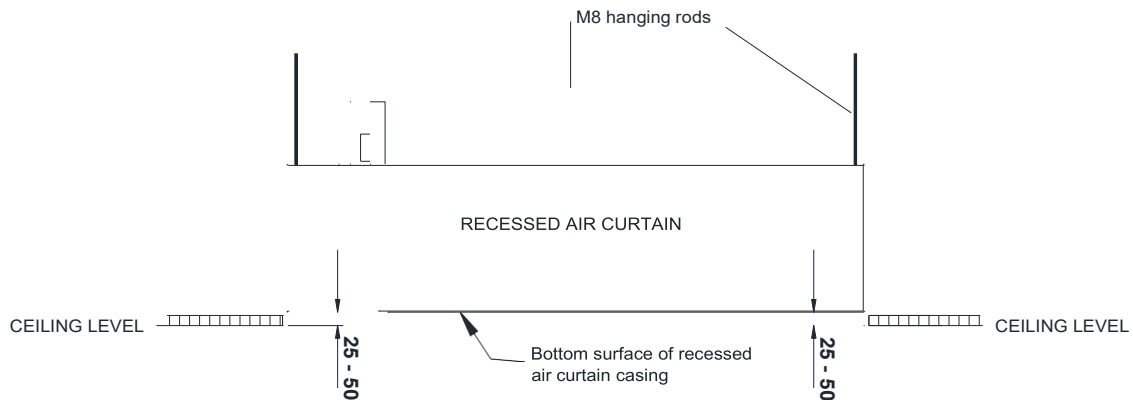

Fig 4
**Step 4** Adjust the height of the unit on its hanging rods so the bottom surface of the casing goes between 25-50mm up into the ceiling as shown in Fig 4. Ensure the unit is level.